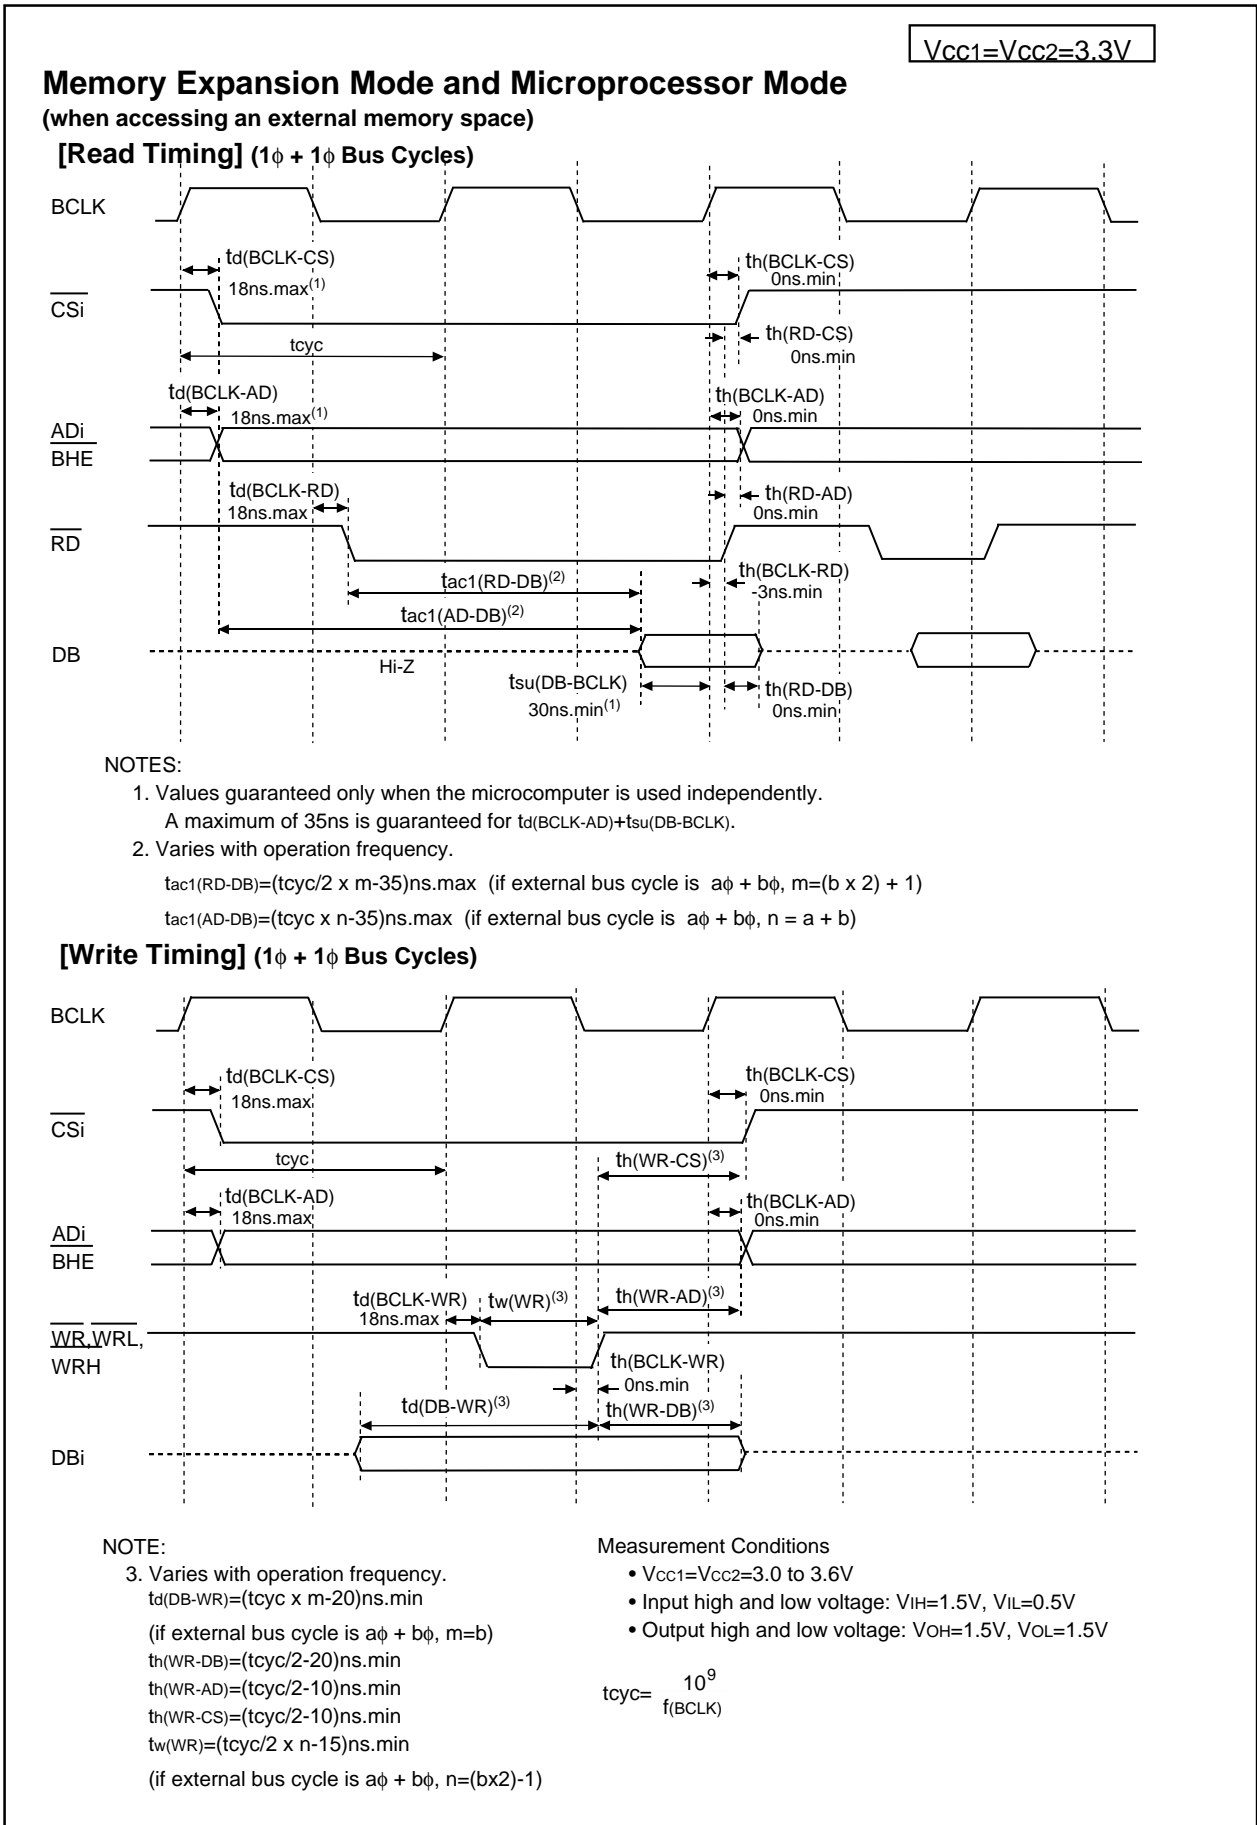

Figure 5.6 VCC1=VCC2=3.3V Timing Diagram (1)
52	<ul style="list-style-type: none"> <li>Figure 5.6 VCC1=VCC2=3.3V Timing Diagram (1) Expression for tcyc added; note 3 corrected</li> </ul>